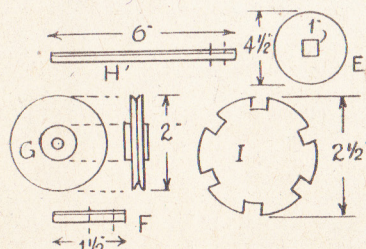

Fig. 2—The pulley parts
From  $\frac{1}{2}$  in. wood cut the part (E), shown in Fig. 2. Push this over the pillar, removing the top part (A) first, and screw it from below (A), fixing it firmly to the latter part. From  $\frac{1}{2}$  in. round wood rod, cut the spindle of the handle (F) and the shaft (H). Also from  $\frac{1}{2}$  in. wood cut the round disc (G), and file a groove round its edge rather deeply.